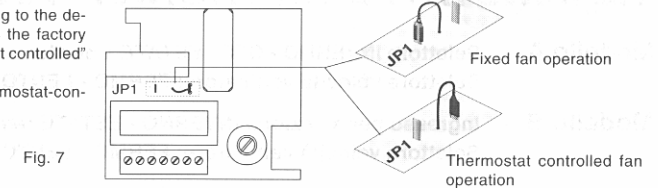

Fig. 7
- Position the **JP1** jumper (fig. 7) for the desired operating mode.
Position the jumper (fig. 7) according to the desired fan mode (the product leaves the factory with the jumper in the "fan thermostat controlled" mode).